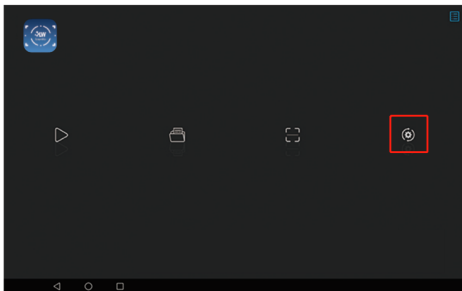
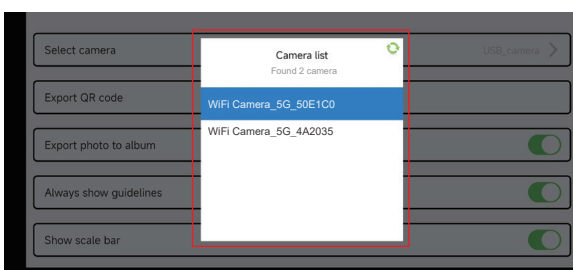

Figure 1
Figure 3
- (1) Connect the cell phones or tablets that supports 5G WiFi IEEE802.11ac protocol to the same local area network as the camera.
- (2) Install and run the APP LW Scientific on the cell phones or tablets, enter the navigation interface and click the "  " button.
- (3) When there is only one network camera in the local area network, the APP can automatically get the live image from the camera.
- (4) When there are multiple network cameras in the same local area network, click the icon "  " in the navigation interface (Figure 1), pop-up menu (Figure 2). The list automatically shows all cameras in the current local area network (Figure 3), select a camera as needed, support switching midway at any time.